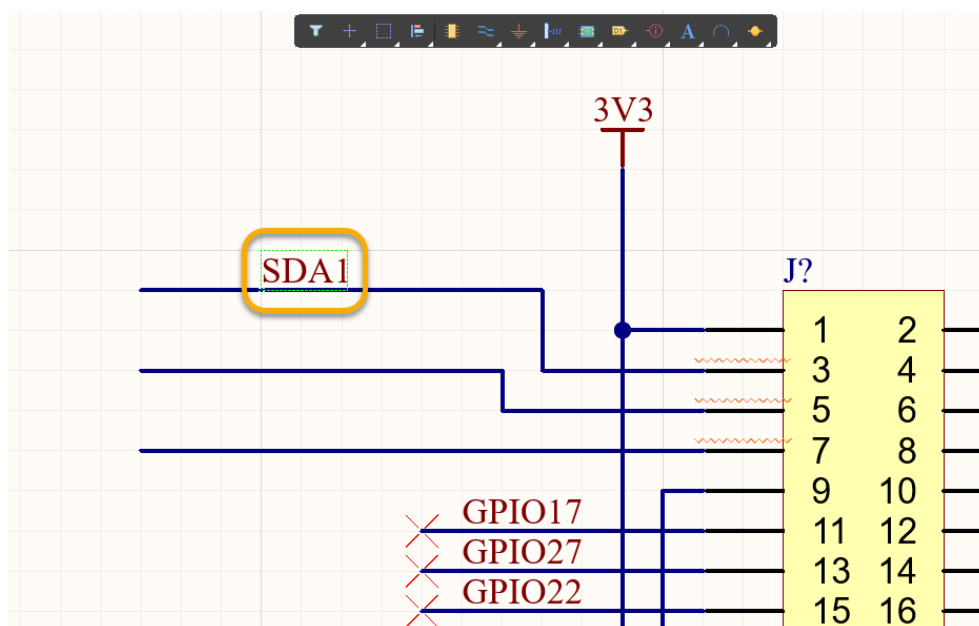

Figure 21. Placing the SDA1 Net Label onto Pin 3
18. Press **Enter** and place the Net Label on the wire on Pin 3 of the header using *Figure 21* as reference.